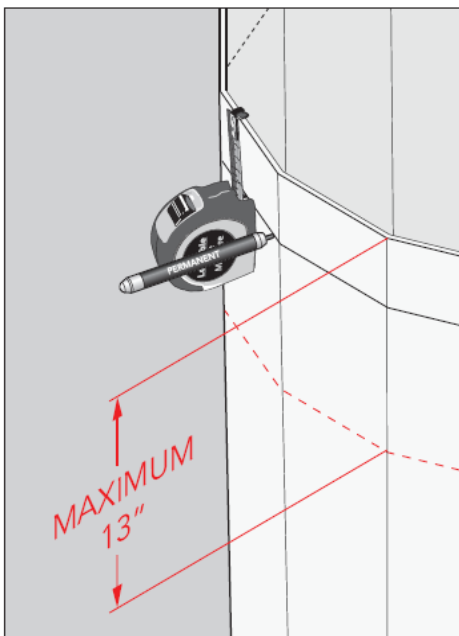

**Figure 3**
4. The top of the sump base must be 22” below the string line set at finished manhole grade level. This will provide sufficient clearance for both the OPW / Fibrelite top hat and the water shroud platform. See Figure 3.
10. Use a level to set the sump base on collar. Make sure the sump will be level to finished grade. Ensure the 22" dimension in Figure 3 is correct.